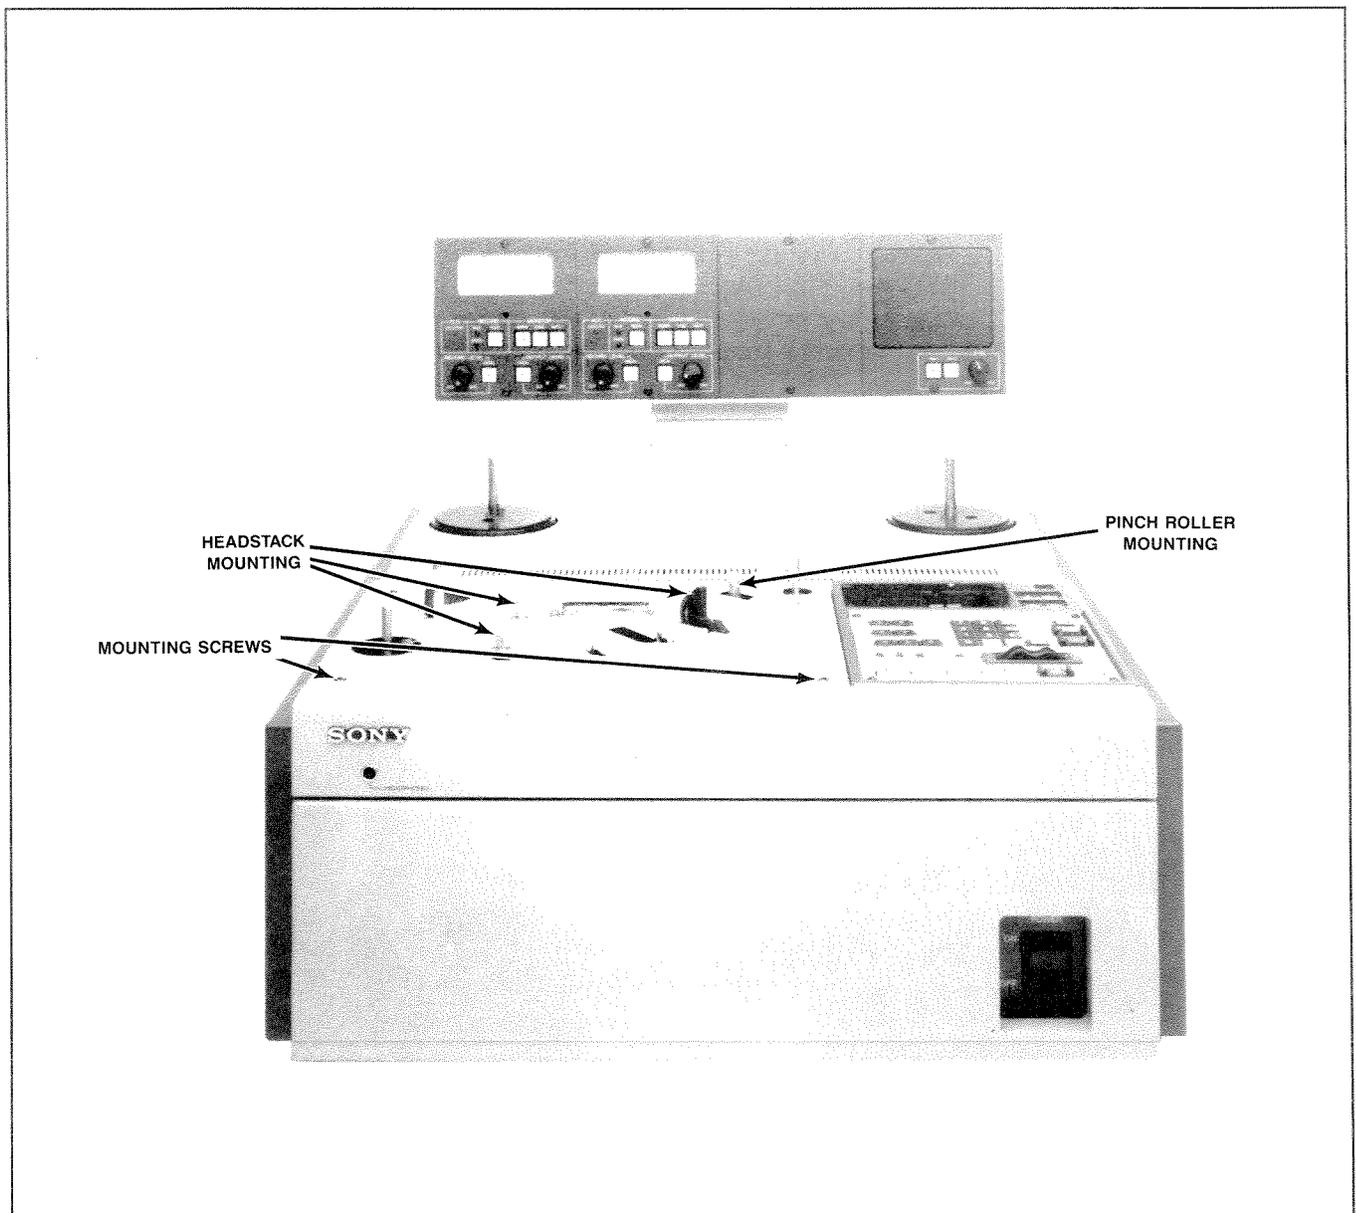

Figure 6-1. Removal of Top Front Cosmetic Cover
STEP 4 To re-install, gently place the headstack to be installed on the connector and studs. (See Figure 6-1.)
Some of the adjustment and alignment procedures in this section requires removal of the top front cosmetic cover. When it is necessary refer to this procedure. (See Figure 6-1.)